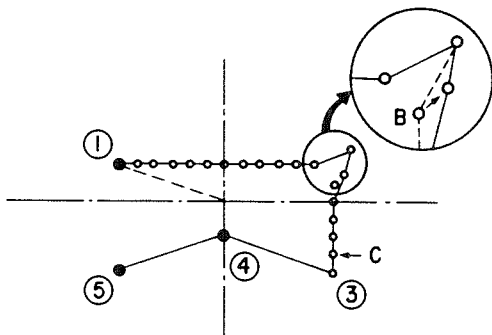
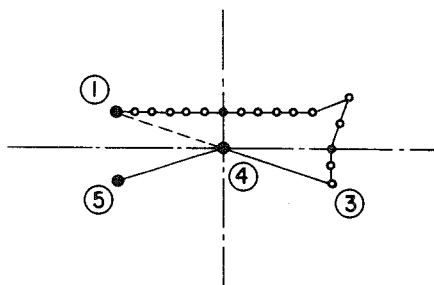

Fig. 5
Fig. 6
Step 17 Move the needle to position B show in Fig. 5. Then press the **8** and **2** keys until **02** [Point movement (absolute)] is shown by the **Function** LED. Then press the **Reset (Select)** key.
Step 20 Move the needle using the **Forward** and **Backward** keys, and confirm that the needle entry point has been moved as illustrated in Fig. 5.
Step 21 Move the needle to position C shown in Fig. 5. Then press the **8** and **2** keys until **11** [Point deletion (relative)] is shown by the **Function** LED. Then press the **Reset (Select)** key.
Step 23 Press the **Forward** key until the needle reaches position ③. Then press the **Counter (Set)** key.
Step 24 Move the needle using the **Forward** and **Backward** keys, and confirm that the needle entry point has been erased and the pattern after the deleted point has moved as illustrated in Fig. 6.
Step 25 Move the needle to position ④ shown in Fig. 6. Then press the **8**▲ and **2**▼ keys until **72** [Point movement (relative)] is shown by the **Function** LED. Then press the **Reset (Select)** key.